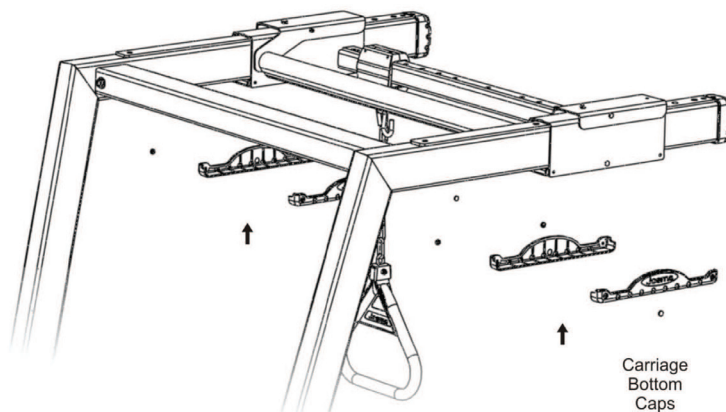

Figure 7
- Slide carriage assembly as far rearward as possible to the head end of bed. Tighten the upper stretcher nuts from step 7 (see Figure 7).